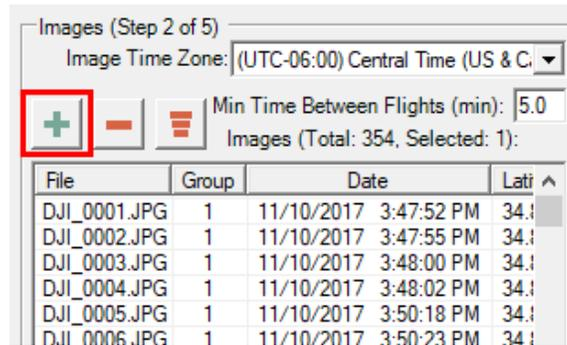

Figure 8 - Add Photos
6. Select the green plus sign (Figure 8) and navigate to the photos on the aircraft. Select all photos collected during the flight, including the ground photos. If you select photos from more than one flight you will get a notification. Use the group numbers and remove photos from other flights. ASPSuite can only work with one flight at a time.